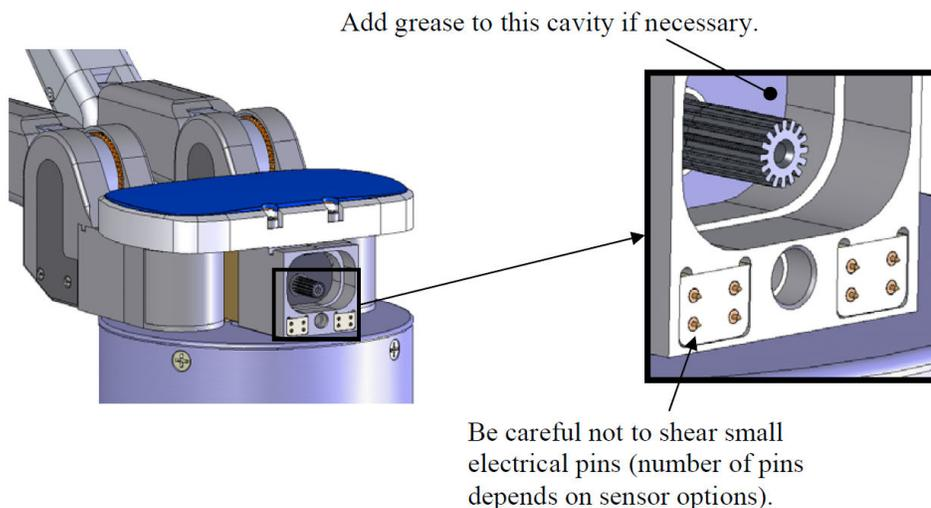

Figure 21: Close-up of electrical "pogo" pins
Step 9: If necessary, add Mobil 1® Synthetic grease to the motor body cavity using the syringe provided. Cover all gear teeth with a thick bead of grease. Reverse Steps 5 and 6 to attach the new finger. Be careful not to damage (shear) the electrical “pogo” pins at the base of the motor (Figure 21).